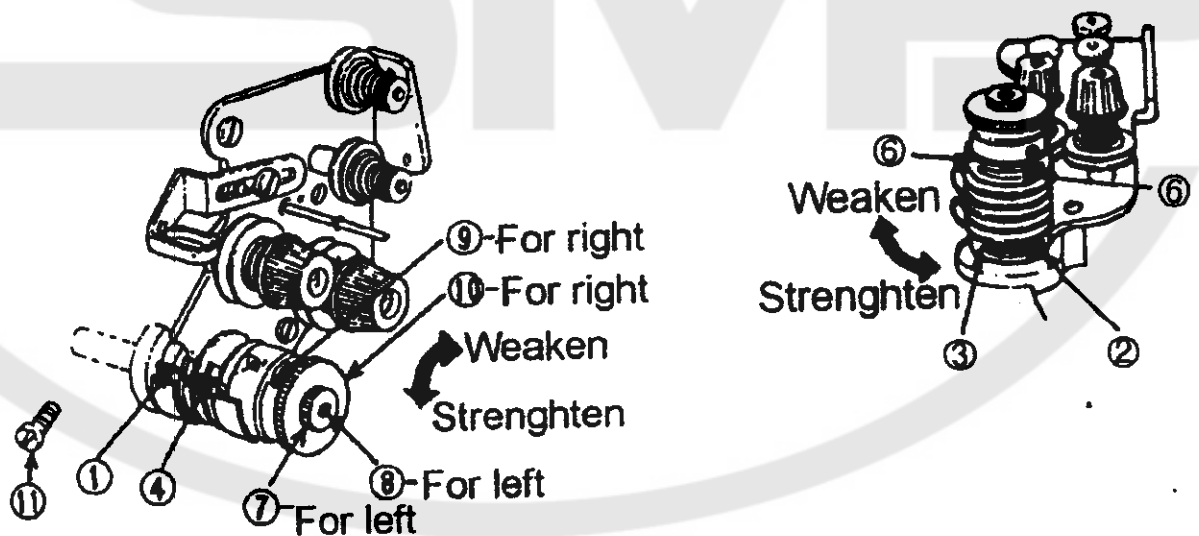

Fig. 12
16. Adjustment of the thread take-up spring (Fig.12):